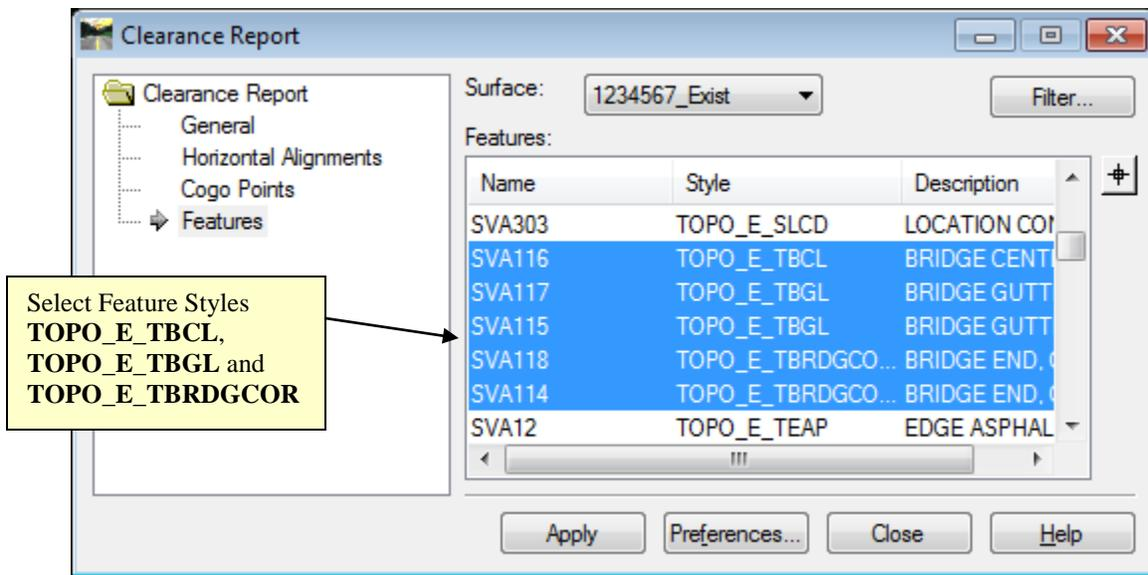

Figure L5-11 Clearance Report
- Ensure your selections match those shown in *Figure L5-11*.